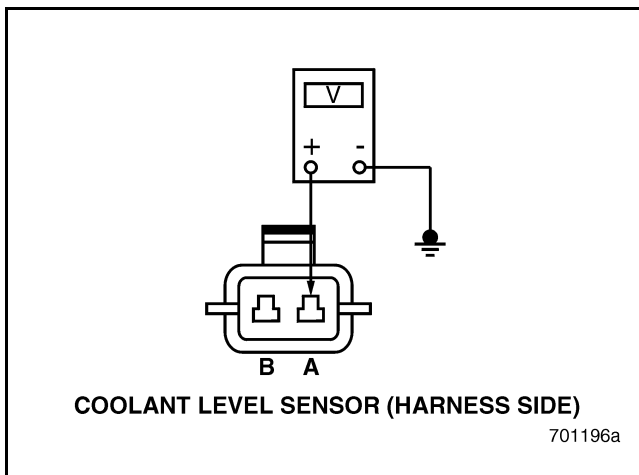

Figure 99
5. Measure the voltage between pin A on the harness side of the connector and a good ground (see Figure 99).